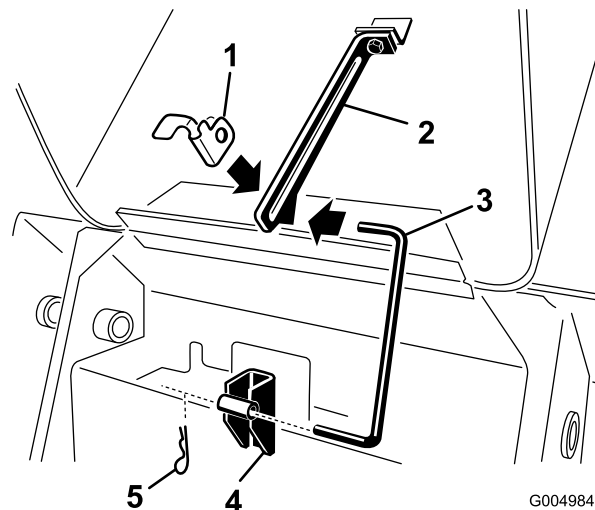

Figure 41
3. Pull the hairpin cotter from the bottom end of the hood prop-rod and slide the prop rod out of the retaining brackets and the prop-rod tab (Figure 41).
7. Install the prop-rod into the retaining brackets and prop-rod tab and secure it with the hairpin cotter (Figure 41).